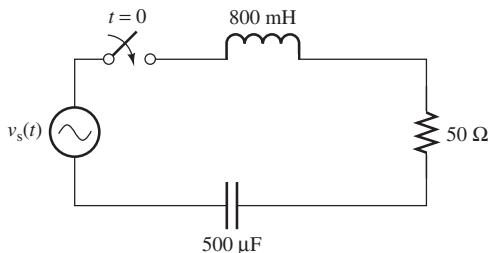

FIGURE P5.54 Circuit for Problem 5.54.
- 5.54** (H) The switch closes at $t = 0$ s. Find the expression of $v_C(t)$ for Figure P5.54, if the voltage source is $V_s(t) = 20 \sin(50t)$.